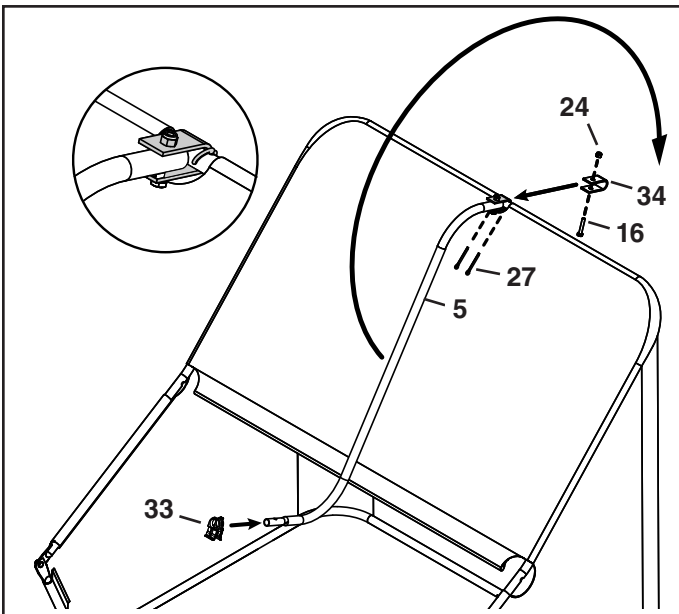

FIGURE 14
22. Install two cotter pins (27) in the rear hopper tube. Bend ends of cotter pins around tube.
23. Slide the dump handle clip (33) onto the dump tube (5).
24. Place the U-clamp (34) between the cotter pins in the rear hopper tube. Attach the dump tube (5) to the U-clamp (34) using a 1/4" x 1-1/2" hex bolt (16) and a 1/4" nylock nut (24). See figure 14.